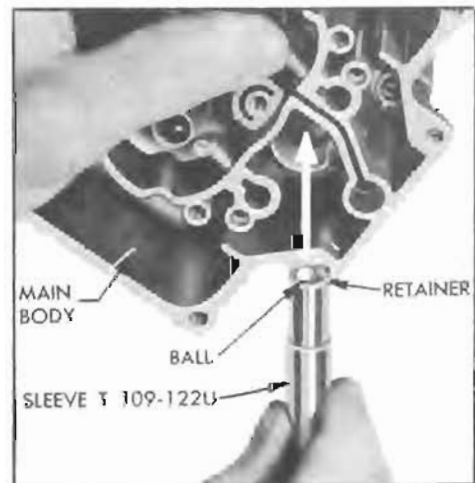

Figure 3-41—Installation of Intake Check Ball and Retainer
8. Place a *new* intake check ball retainer and check ball in small end of the sleeve of Loader Unit T109-122U, holding sleeve vertical. Invert main body and insert parts and tool into pump cylinder, then turn body over and tap sleeve to seat the retainer in recess at bottom of pump cylinder. See figure 3-41.